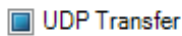

Figure 27. UDP On/Plot On Mode
- UDP on/plot on, where the **UDP Transfer** checkbox fill is solid (see Figure 27).